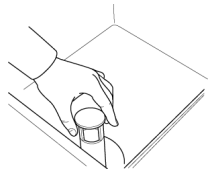

Fig.26
- 1- Open the door and verify that all internal components, the water flow device included, are in the correct position. (Fig.26)